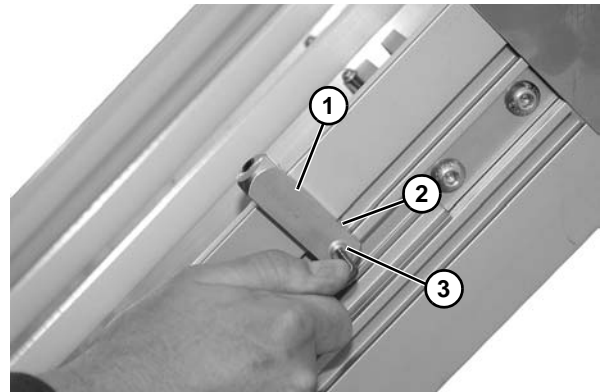

**Figure 31**
1. Lay out retaining clip (**Figure 31, item 1**) locations. The end clips should be no greater than 12" from end of the conveyor. Hole should line up with notch (**Figure 31, item 2**) in side rail.
2. Hold guide (**Figure 31, item 3**) and retaining clip (**Figure 31, item 1**) to conveyor side rail. Install self-drilling screws (**Figure 31, item 4**) following the "Proper Methods of Attaching Guiding to Side Rails (SmartSlot Frames Only)" on page 11 procedure.